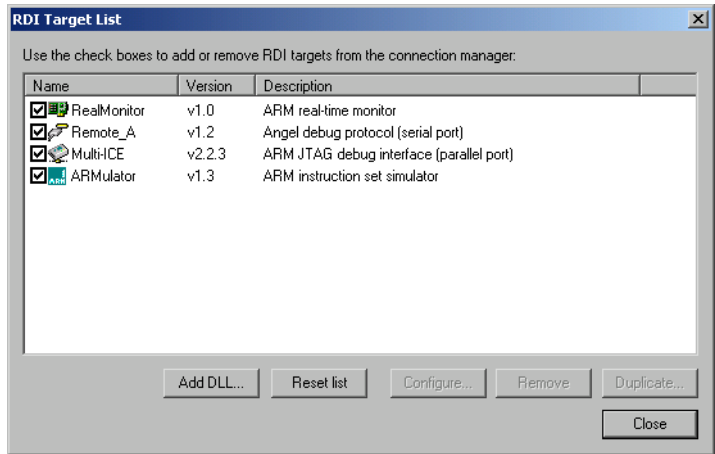

Figure 5-6 RDI Target List dialog box
To add, remove, and edit RDI targets, you use the RDI Target List dialog box shown in Figure 5-6.
Figure 5-6 shows an example RDI Target List dialog box. The entries in the display list show the autodetected targets currently available to you. If you install a new DLL separately from RealView Debugger, for example RealMonitor, the display list is automatically updated for you.
- from the RDI Target List dialog box, shown in Figure 5-6 on page 5-15. Highlight the entry in the display list and click **Configure....**